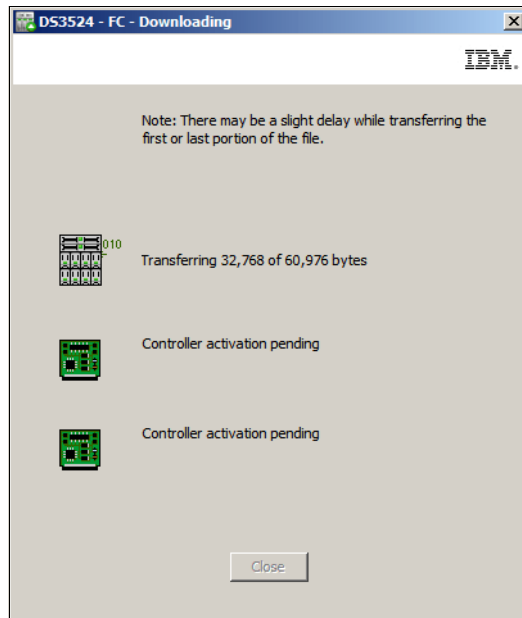

Figure 14-78 Download Progress NVSRAM
4. The **Downloading** window appears and shows you the status of the transfer and the activation on the controller(s) as shown in Figure 14-78.